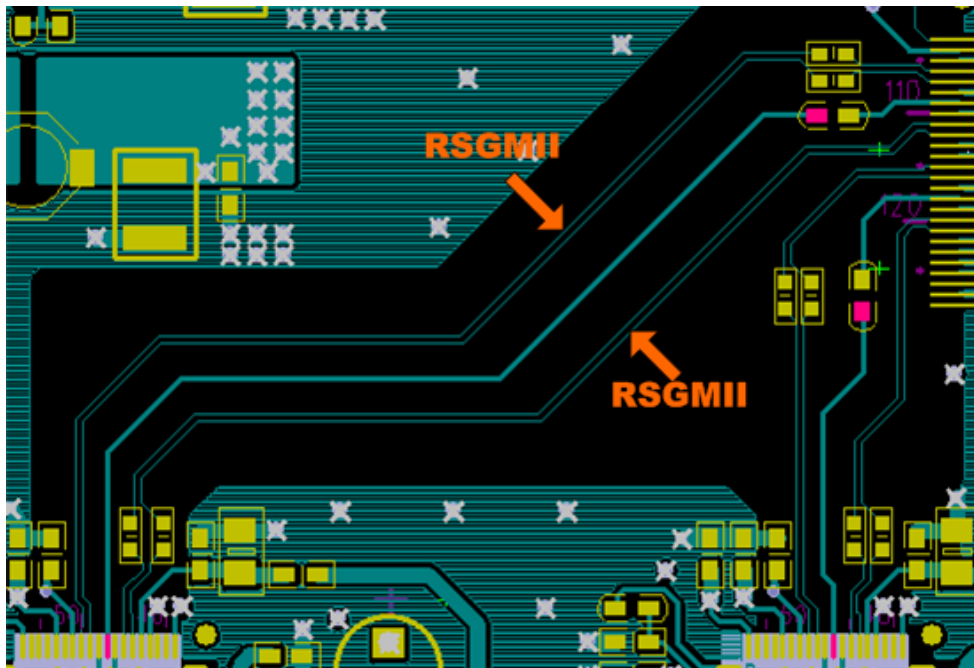

Figure 5. RSGMII Layout Reference
- RSGMII layout reference is shown in Figure 5.